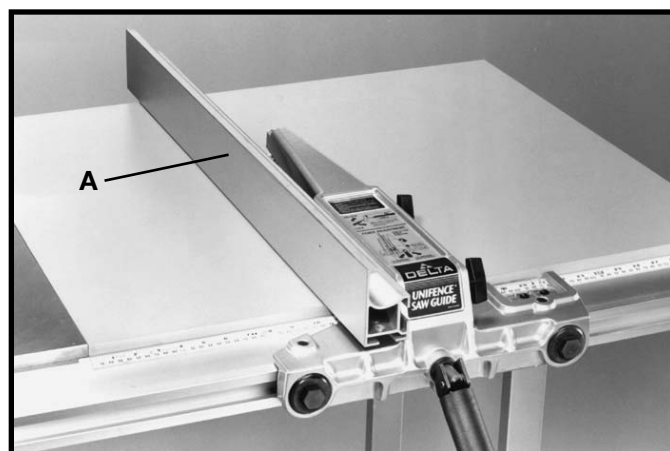
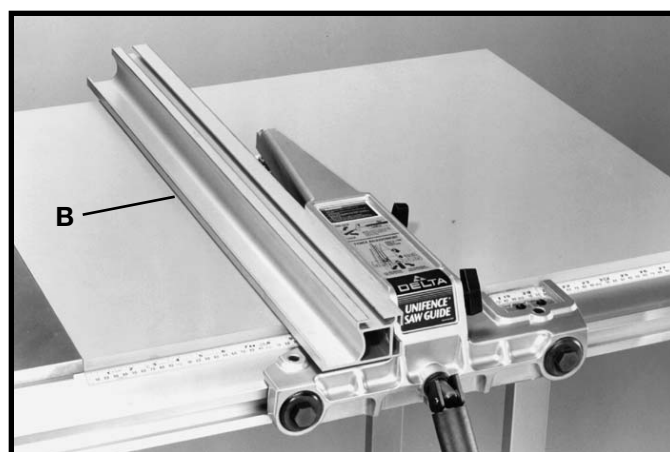
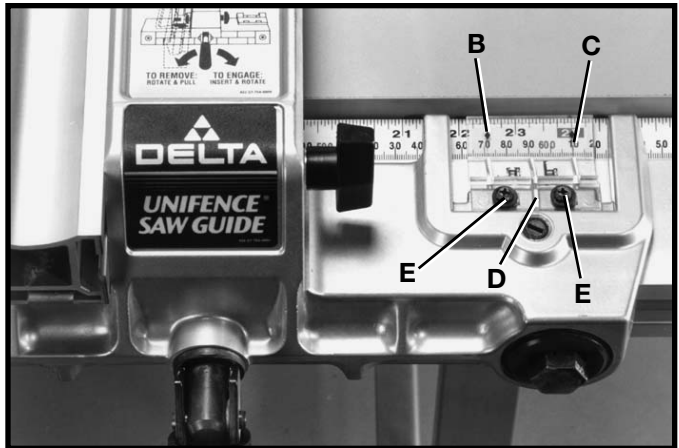

Fig. 110
Fig. 111
Fig. 113
2. For most normal ripping operations of standard size lumber, the fence is used in the vertical position, as shown in (A) Fig. 110.
3. When ripping thin stock, use the fence in the horizontal position, (B) Fig. 111.
5. The distance the fence is positioned away from the blade is indicated by the two witness lines (B) and (C) Fig. 113, located on the cursor (D). The witness lines (B) and (C) indicate the distance the fence is positioned away from the saw blade. Witness line (B) indicates the distance the fence is away from the blade when the fence is in the horizontal position (Fig. 111), and witness line (C) indicates the distance the fence is away from the blade when the fence is in the vertical position (Fig. 110). To adjust cursor (D), make a test cut with the fence in either the vertical or horizontal position, measure the distance of the finished cut and move the cursor (D) by loosening the two screws (E) Fig. 113. After adjustment is completed, tighten the two screws (E).